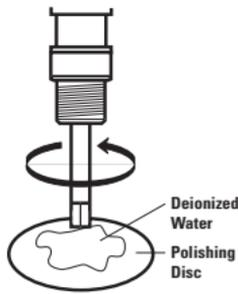
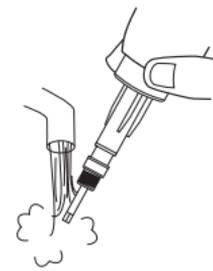

Figure 5
Figure 6
- 4b. Place a few drops of distilled water on a polishing disk. Polish the probe by gently rubbing the surface of the cathode on the wet polishing disk in a circular motion for 10 seconds (see **Figure 5**). Once the probe is polished, rinse it with distilled water (see **Figure 6**) and blot dry with a lint-free tissue.